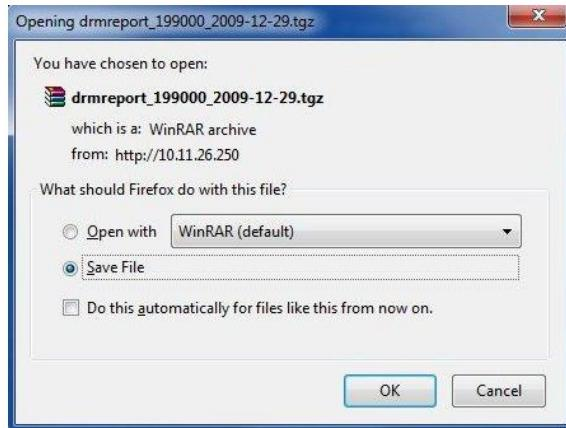

Figure 319: Detailed Report
- When the generation is complete, a window will appear asking the user if they would like to open or save the report (Figure 319). Make your selection and click Ok. The report is saved on the computer's default downloads folder.